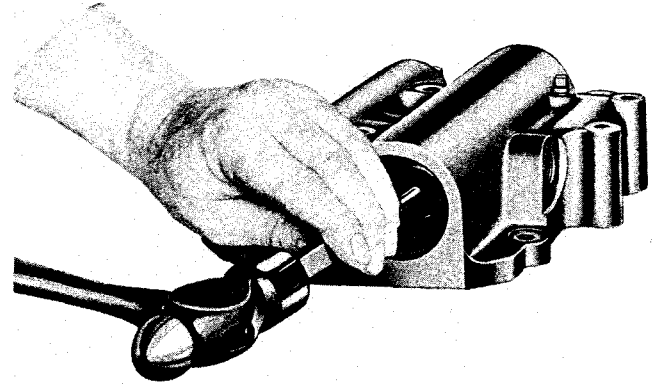

Fig XIV-7. Using hammer and drift to remove forward and reverse valve, seal, forward shift sleeve, and forward and reverse valve piston
(4) Using a hammer and a drift (fig XIV-7) loosen the forward and reverse valve, seal, forward shift sleeve, and forward and